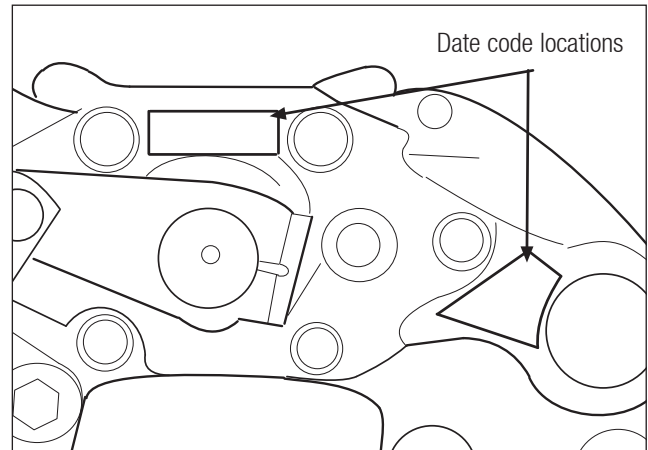

Fig. 11.1
* Date code identification (Fig 11.1). Before brake date code MJ24 (first letter not important) = 1999 week 24